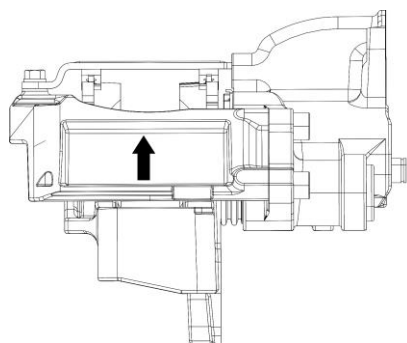

Figure 5. Rotation Direction Marking of ADB / LH
- The identification of ADB LH and RH can be distinguished by the length difference of the guide pin and the arrow marking on the side of the bridge. The arrow marking indicates the rotation direction of the rotor. (See FIGURE 5 & 6)
- (L) : Long Guide Pin / (S) : Short Guide Pin